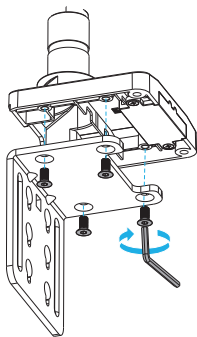

Figure 1
2. Insert the **Countersunk Screws** (x 4) through the **Top Desk Clamp** and into the bottom of the **Base Mount**. Use the **4mm Hex Key** to tighten the **Countersunk Screws** (x 4). (Figure 1)